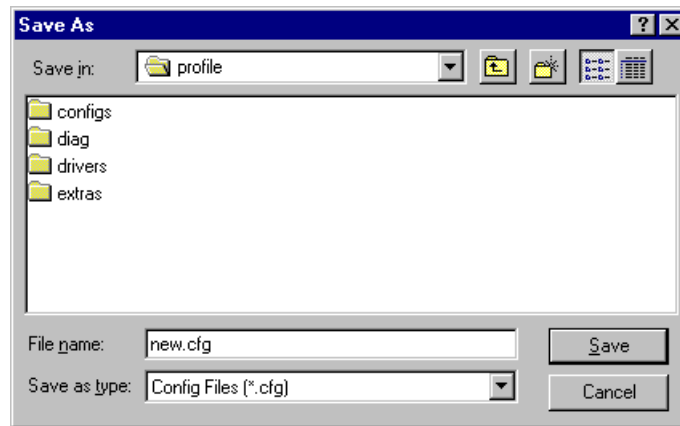

Figure 4. Save As dialog box for saving a configuration file
1. Choose **File | Save Current Configuration**. The Save As dialog box appears (Figure 4).